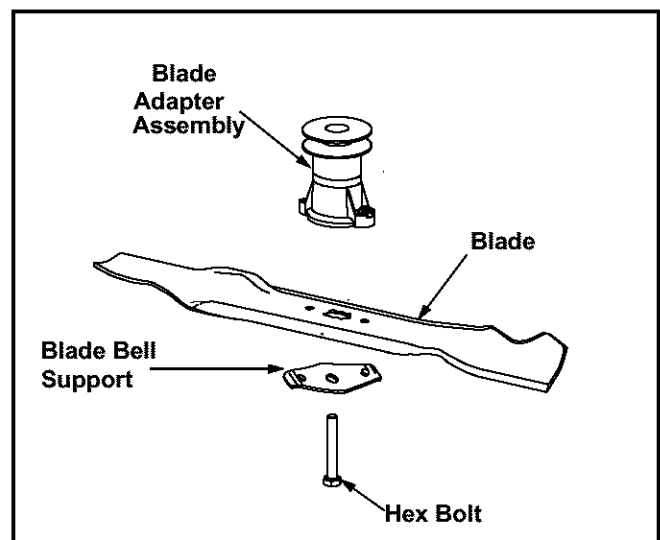

Figure 13
- Remove the bolt and the blade bell support that hold the blade and blade adapter assembly to the engine crankshaft. See Figure 13.